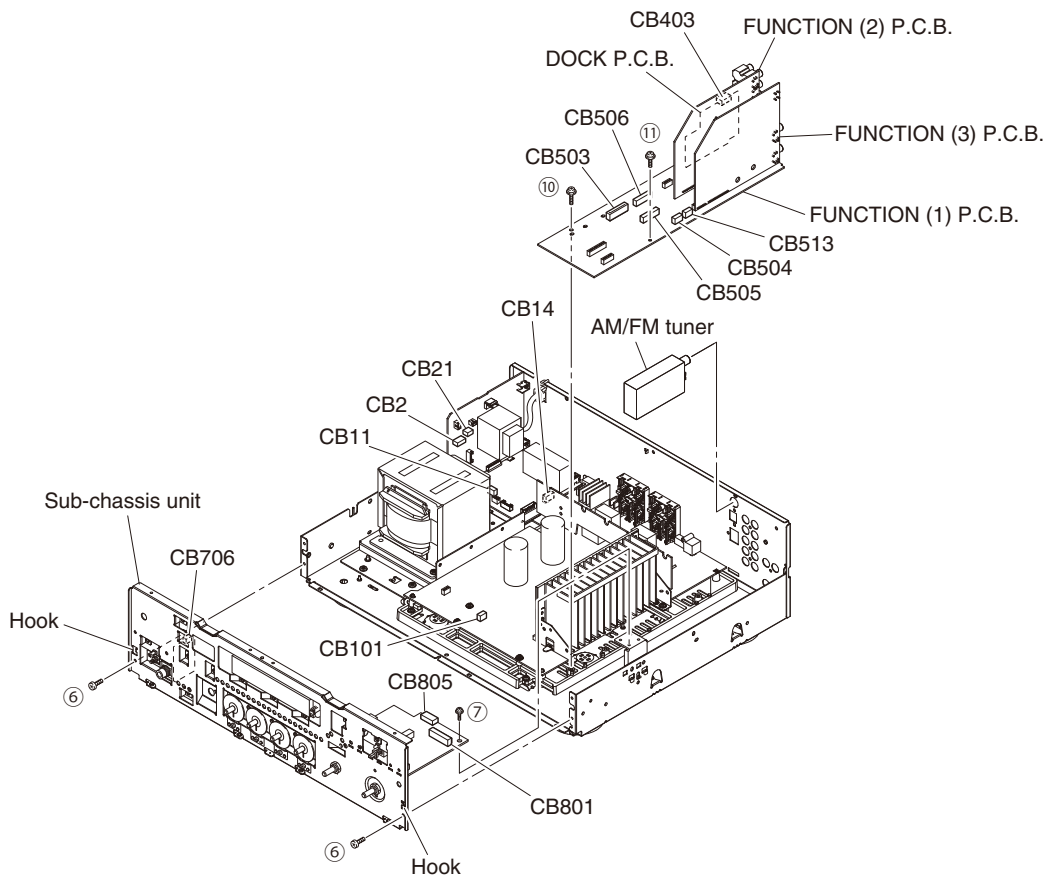

Fig. 2
- Remove 2 screws (⑥) and screw (⑦). (Fig. 2)
- Remove CB11, CB101, CB503–505, CB513, CB706, CB801 and CB805. (Fig. 2)
- Release 2 hooks and then remove the sub-chassis unit. (Fig. 2)
- Remove CB403. (Fig. 2)
- Remove the AM/FM tuner. (Fig. 2)
- Remove screw (⑩) and screw (⑪). (Fig. 2)
- Remove CB2, CB14, CB21 and CB506. (Fig. 2)
- Remove the FUNCTION (1)–(3) P.C.B.s and DOCK P.C.B. together. (Fig. 2)